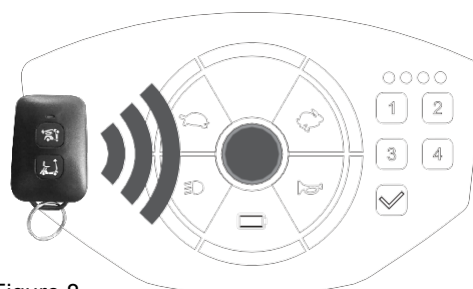

Figure 8
- To unlock, place the RF remote to the panel (spot near power switch for best reading result). (Figure 8)